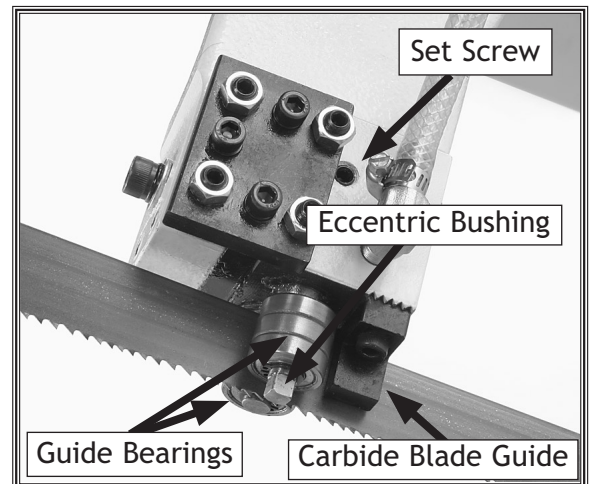

Figure 38. More blade guide adjustments.
1. Loosen the set screw in **Figure 38** to allow the eccentric bushing to turn.